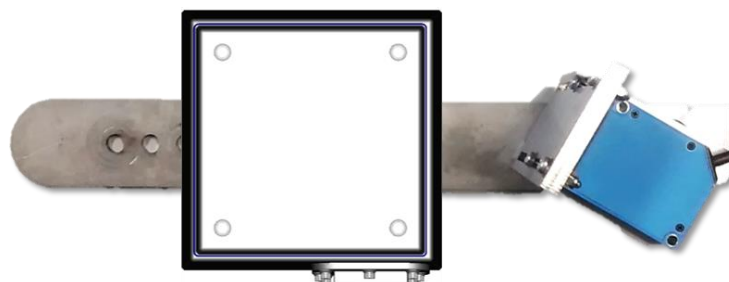

FIGURE 2: STAINLESS STEEL BASE PLATE FOR MOUNTING THE SENSOR MODULE AND THICKNESS SENSOR.
- ✓ Please foresee free space (minimum 50 cm) around the top measurement unit (TMU) to facilitate the installation of the product-thickness sensor at the antenna side as indicated in Figure 2. The product thickness sensor is attached to a stainless-steel base plate which is mounted to the two wall-mount spacers of the HF receiver unit. All units need to be mounted on metal frame which needs to be accessible from the back to fix the different units.